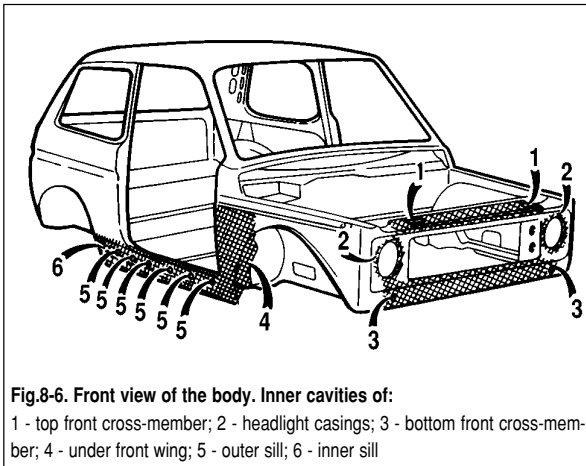
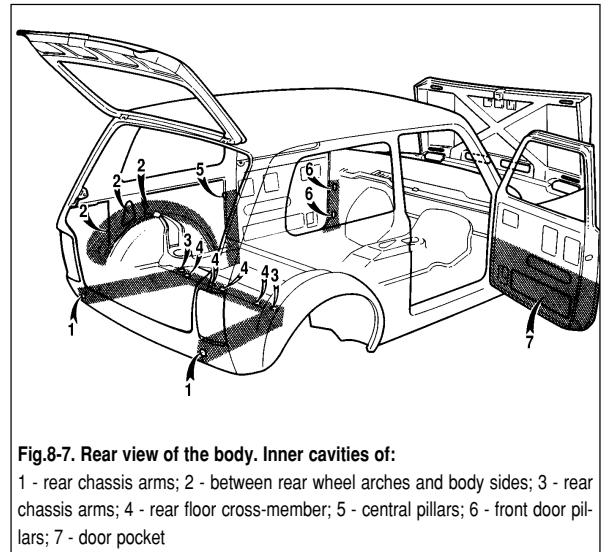
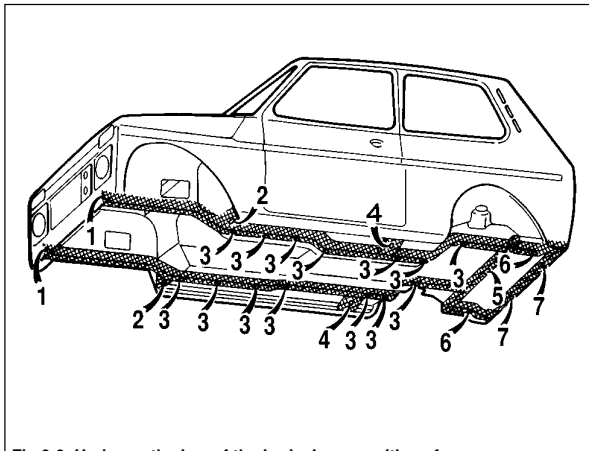

Fig.8-6. Front view of the body. Inner cavities of:
Fig.8-7. Rear view of the body. Inner cavities of:
Fig.8-8. Underneath view of the body. Inner cavities of:
- drive the vehicle into a corrosion treatment booth and position it on a lift; spray the relevant rust inhibitor onto the areas shown in Fig.8-6, Fig.8-7 and Fig.8-8;